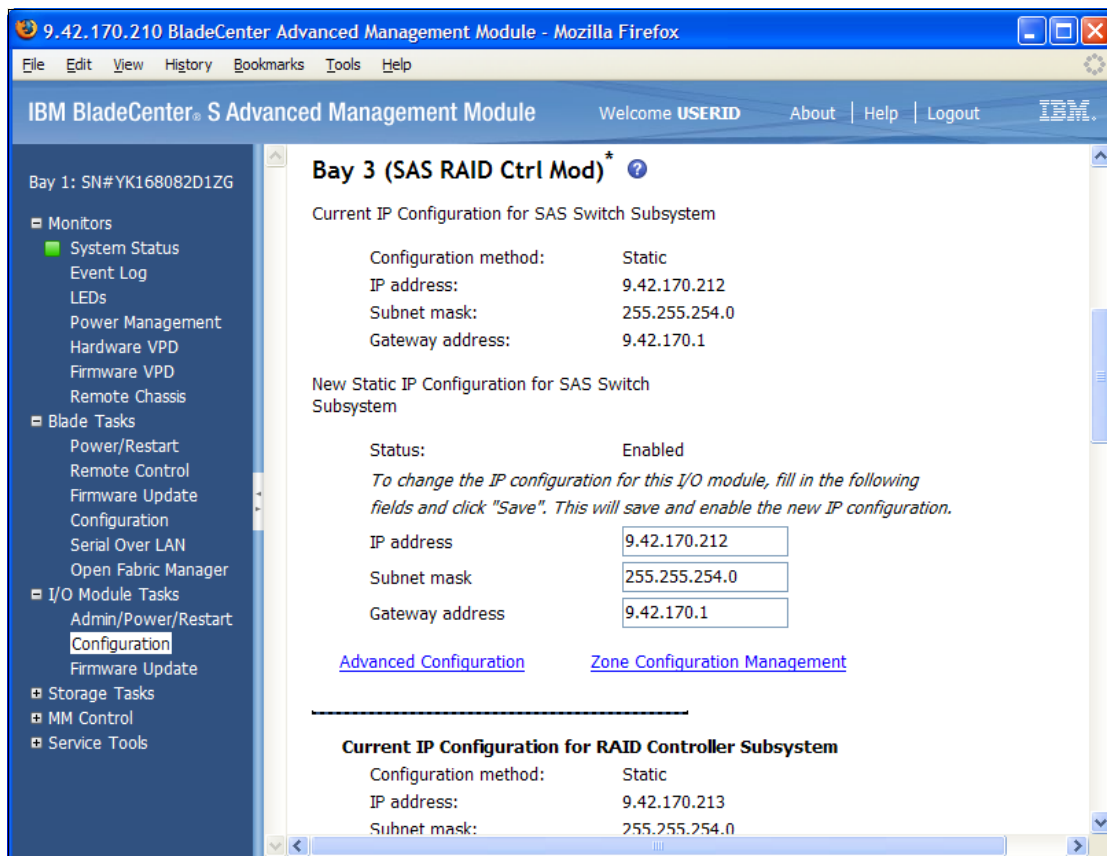

Figure 2-17 IBM BladeCenter S SAS RAID Controller Module IP configuration
6. Provide different IP addresses for the SAS switch and for the RAID controller in the first RAID module. The configuration should look similar to Figure 2-17.